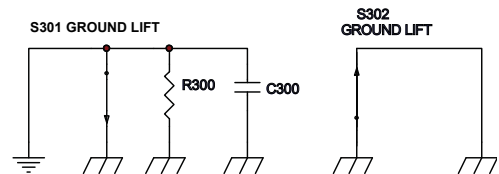

Figure 4
2.2 Refer to Figure 4 as a reference on the connection details.